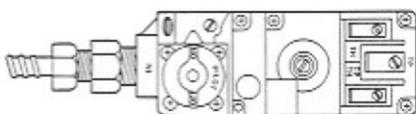

Figure 21
**Step 3.** Carefully bend and shape the flex connector so that a connection can be made to the adapter just mounted on the gas valve (Figure 21).